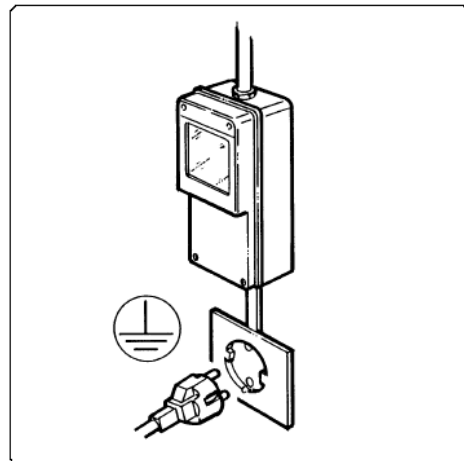

Fig. 67
- The machine's electrical safety is only guaranteed when it is connected to a suitable earth system, structured as provided by the national safety current regulations (Fig. 67). Therefore, the manufacturer cannot be held responsible for any damage due to failure of the grounding system of the machine.
- For a safe and correct installation, it is essential to provide a suitable socket controlled by a thermal cut-out switch whose contacts are at least 3 mm apart, in accordance with the current national safety regulations (see Fig. 67).